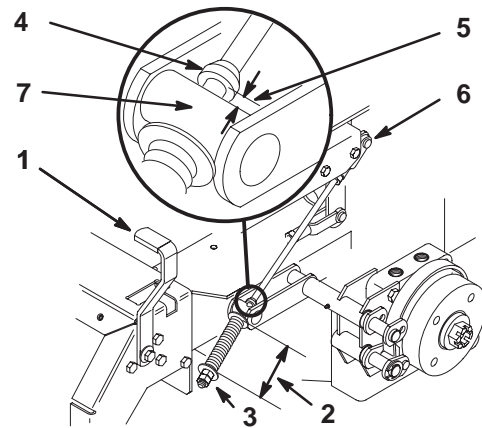

Figure 59
2. Measure the length of the spring. The measurement should be 2-3/4 in. (70 mm) between the washers (Fig. 59).
3. If an adjustment is necessary, loosen the jam nut below the spring and tighten the nut directly below the yoke (Fig. 59). Turn the nut until the correct measurement is obtained. Tighten the two nuts together and repeat on the opposite side of the unit.
6. Measure the distance between the trunnion roller and the collar on brake rod. The measurement should be 3/16–1/4 in. (5–7 mm) (Fig. 59).
7. If an adjustment is necessary, loosen the jam nut directly below the yoke. Turn the bottom adjusting nuts until the correct measurement is obtained (Fig. 59). Tighten the jam nut at the yoke.